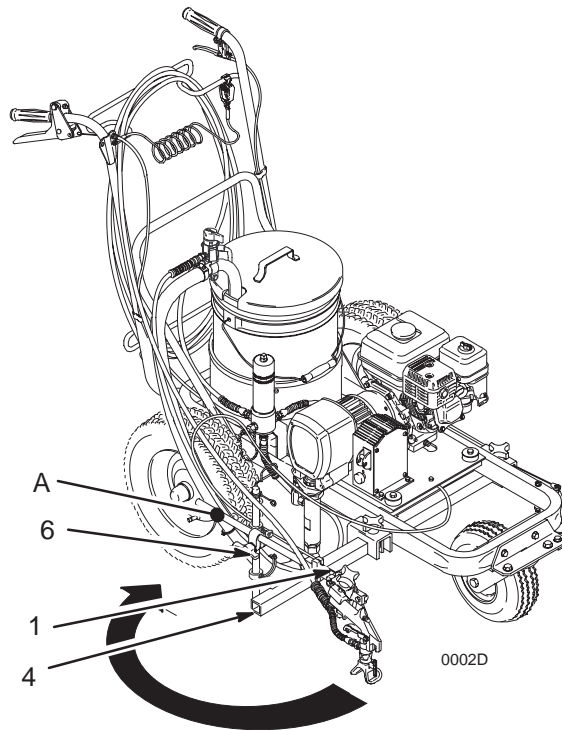

Fig. 16
1. See Fig. 16. Disengage the trigger cable (1) and engage the gun trigger safety latch. See page 21.
2. Loosen the arm clamp (6) and rotate the arm (A) back near the rear tire and then position the arm so the spray tip guard aligns with the back axle of the unit. Retighten the clamp.
3. Extend the carriage bar (4) or second gun bar (404) so you can easily watch the line you are painting and also to avoid running over the paint line. See page 17.